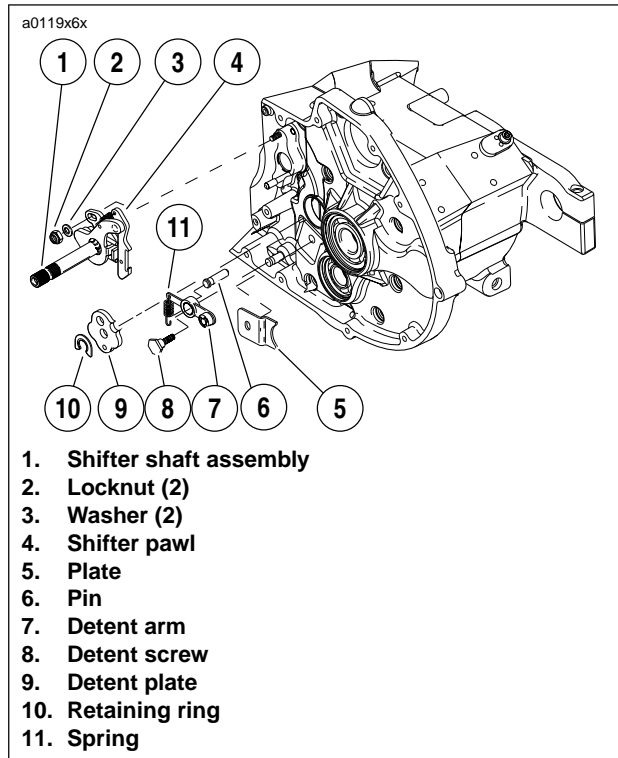

Figure 6-52. Installing Shifter
- See Figure 6-52. Lift pawl over drum pins and place shifter shaft assembly on studs at transmission case. Loosely install a washer and locknut on each stud.